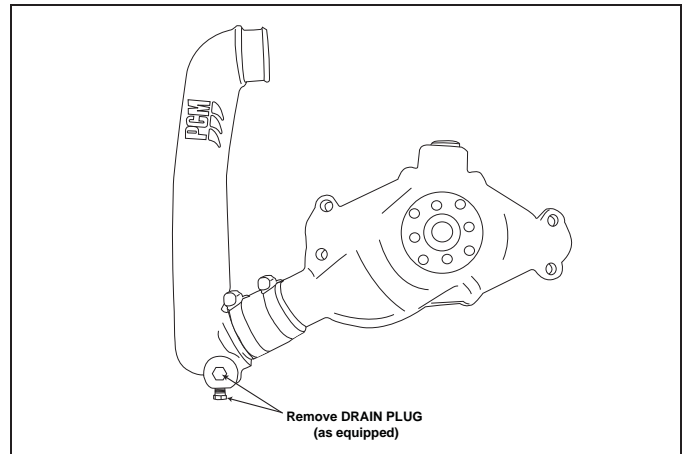

Figure 11-11 Draining Engine Circulating Pump (5.0/5.7L)
- B. Drain plug from coolant pipe as shown in Figure 11-11.